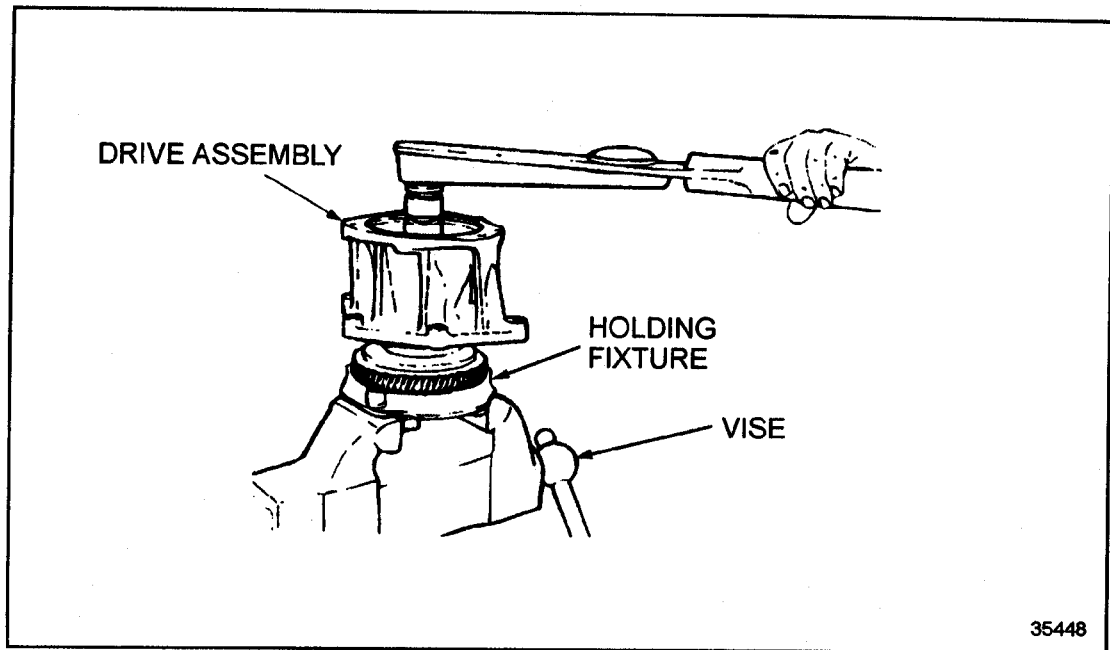

Figure 10-34 Air Compressor Drive Shaft Installation (Former Design)
21. Secure the holding fixture, see Figure 10-10, in a suitable vise with the drive coupling positioned up. See Figure 10-34.